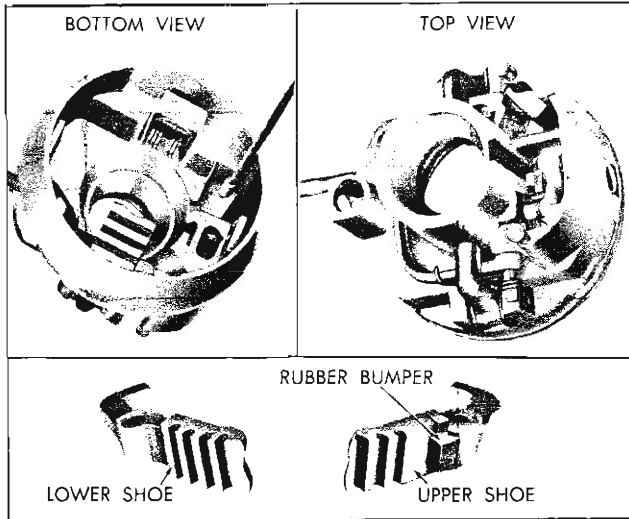

Fig. 29—Actuator Housing and Lock Shoes
3. Remove the lock shoes and springs by pushing the upper end of the lock shoe through the openings in the actuator housing (fig. 29).
NOTE: The upper lock shoe has three notches and a rubber bumper, whereas, the lower shoe has four notches (fig. 29).